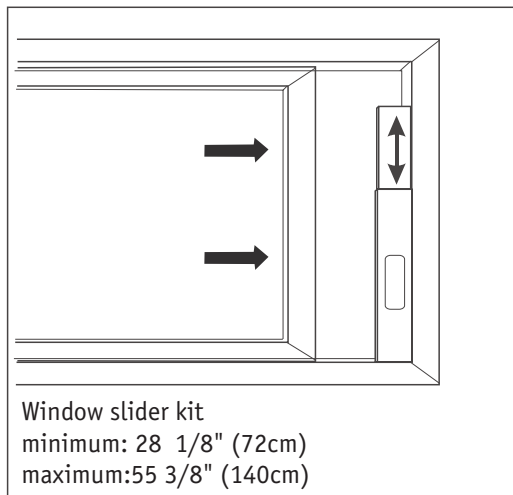

FIGURE 1
Your window kit has been designed to fit most standard vertical and horizontal window applications. However, it may be necessary for you to improvise/modify some aspects of the installation procedures for certain types of windows. Please refer to Figures 1 & 2 below for minimum and maximum window openings.
2. Install the flexible exhaust hose and adjustable window slider kit as depicted in Fig.1.